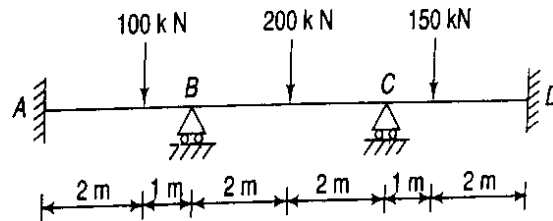

Figure 3.1
1. Analyze the continuous beam shown in Figure 3.1 by displacement method EI is constant